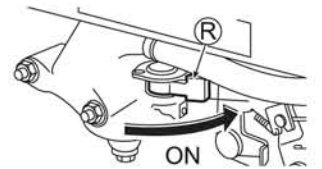

Fig. 10
2. Set Fuel cock (R) to "ON". (See Fig. 10)